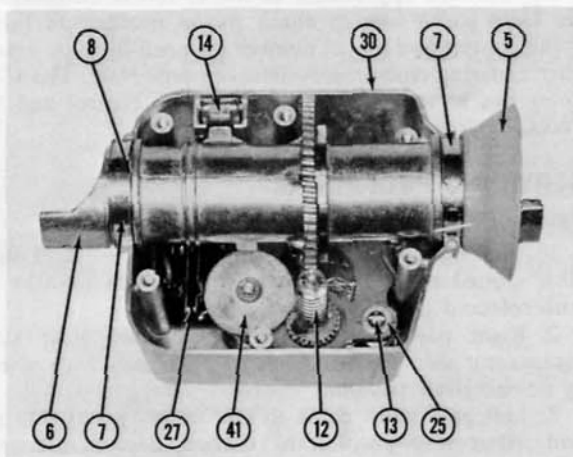

Fig. 53. Internal Components—Model U-100 Rotator Unit.
4. Contact spring (Item No. 27) in the rotor unit must make contact only when cam lobe (Item No. 41) comes in contact with the switch. If shaft assembly (Item 6) is removed from the rotor unit, cam lobes must be $\frac{1}{2}$ turn away from contact points in end-stop position in both directions. See Fig. 53.